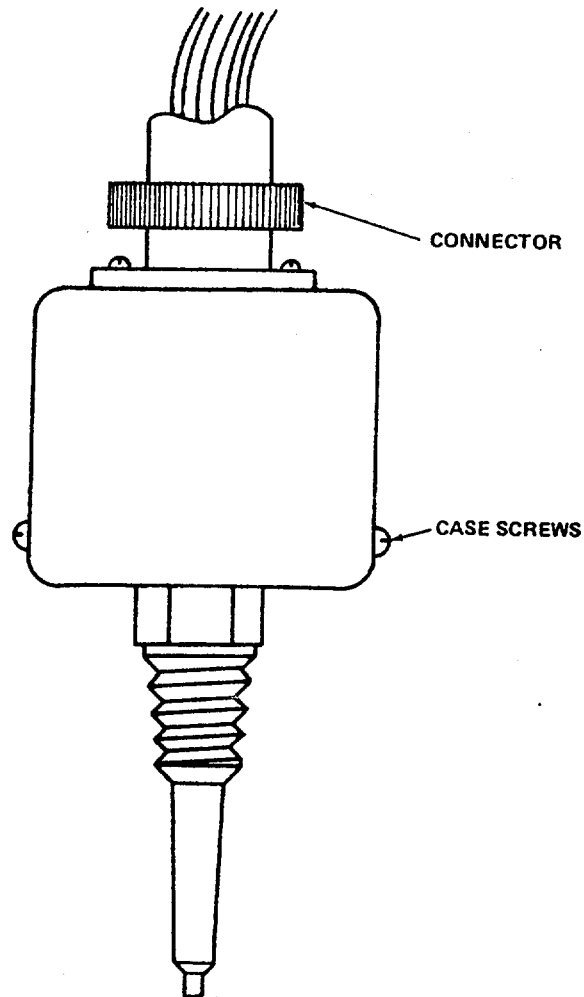

Figure 4-55. Coolant Temperature Switch
- b. Removal. (See figure 4-55.) Loosen connector, pull wiring plug, and unscrew temperature switch from water manifold.
- (1) Connect ohmmeter set to Rx1 scale across switch contacts.
- (2) Suspend switch in a container of antifreeze. Switch should be inserted so that sensing element is completely immersed but connector end is out of antifreeze.
- (3) Heat antifreeze gradually and stir so heat is evenly distributed.
- (4) Check temperature of antifreeze with a reliable thermometer.
- (5) When antifreeze has reached 214°F (90°C), the switch should open and the ohmmeter should read less than 1 ohm.
- (6) Allow antifreeze to cool. As the temperature drops to below 212°F (89°C) the switch should close and the ohmmeter should read infinite ohms.
- (7) The switch is not repairable. If it does not operate within the above limits it should be replaced.